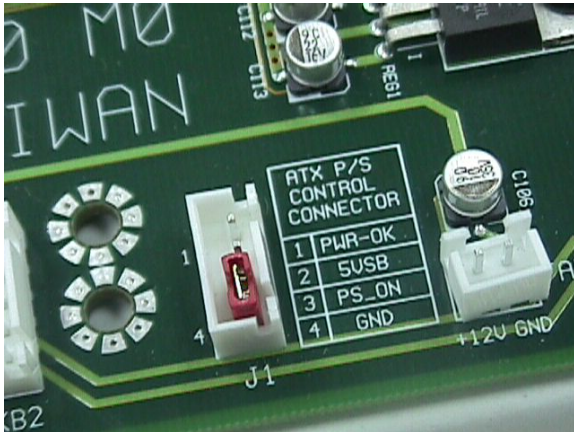

Fig.5
3. If you are using ATX power supply, you may also apply a jumper over pin-3 and pin-4 of J1. In this application, the 4-pin ATX power control cable is not required, and your ATX power supply will then act as a AT power supply (**Fig.5**).